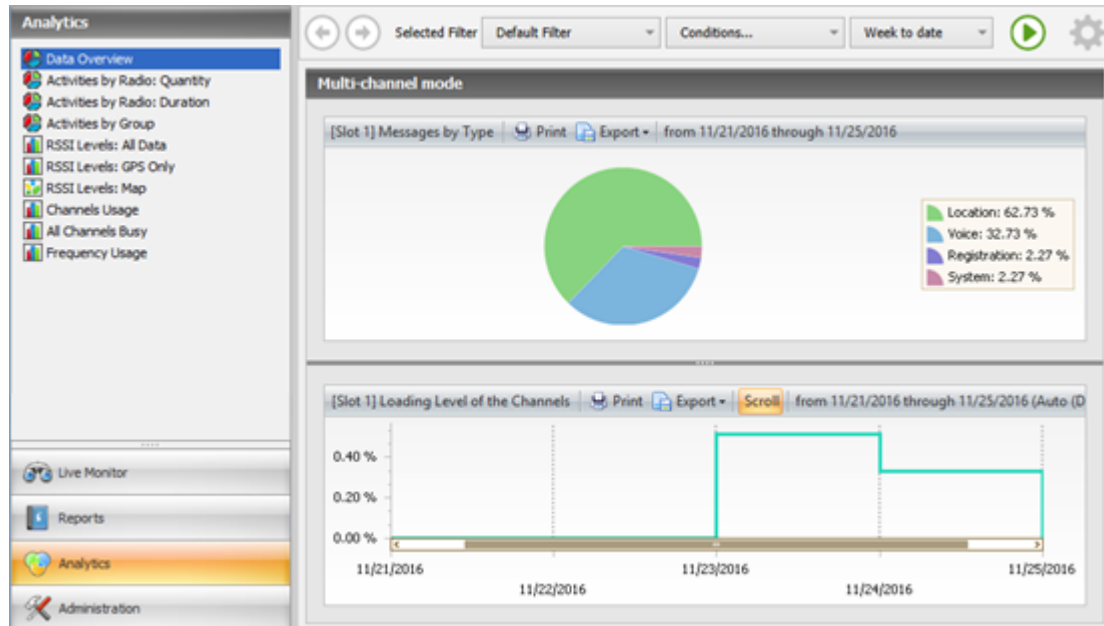

Figure 59: Analytics tab
- Multi-channel mode (Figure 59): Charts are generated for multiple selected systems or for a single system other than IP Site Connect.